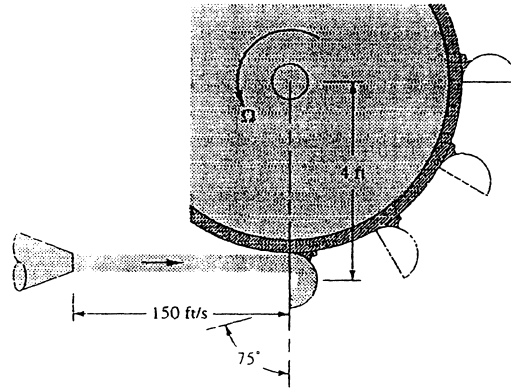

Fig. P3.123
3.123 The waterwheel in Fig. P3.123 is being driven at 200 r/min by a 150-ft/s jet of water at 20°C. The jet diameter is 2.5 in. Assuming no losses, what is the horsepower developed by the wheel? For what speed Ω r/min will the horsepower developed be a maximum? Assume that there are many buckets on the waterwheel.